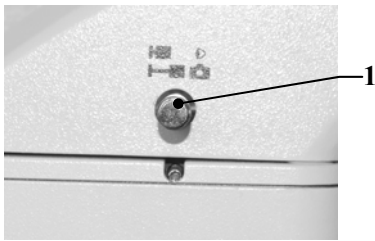

Fig.4
2. Check the position state of observation / photography switch pole 1. Push the pole into optical path, as show the remark “ ”, The remark “ ” means is photography. As shown in Fig.4.